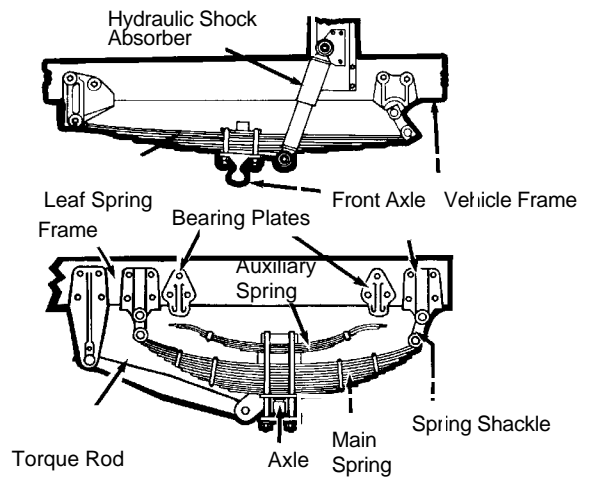

Figure 2-3
- * Missing or broken leaves in any leaf spring. If one fourth or more are missing, it will put the vehicle "out of service" but any defect could be dangerous (Figure 2-3).